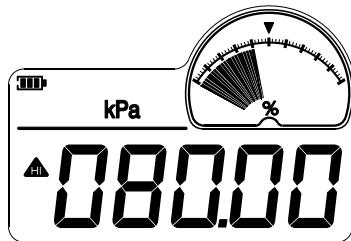

Figure 7-7-4: The setting menu of the high or limit and the lower limit
- (1) Press and hold  display the higher limit  and the lower limit  then move the cursor up or down by pressing  or .
- (2) Press **units** or **zero** to access the alarm adjust status, then when **Hi** is displayed, the higher pressure limit can be set, when **Lo** is displayed, the lower pressure limit can be set. After these steps are completed, press **esc** to select negative (-) or positive (+) values.
- (3) After the high limit is adjusted, the menu will automatically enter the lower limit and then return to the normal screen. The sequence is: High limit, Low limit, Quit.
- (4) The ADT681 automatically checks the validity of the input data. If there is a problem or if the data input is not valid, the ADT681 will not accept the change. Figure 7-7-4 shows the setting menu.